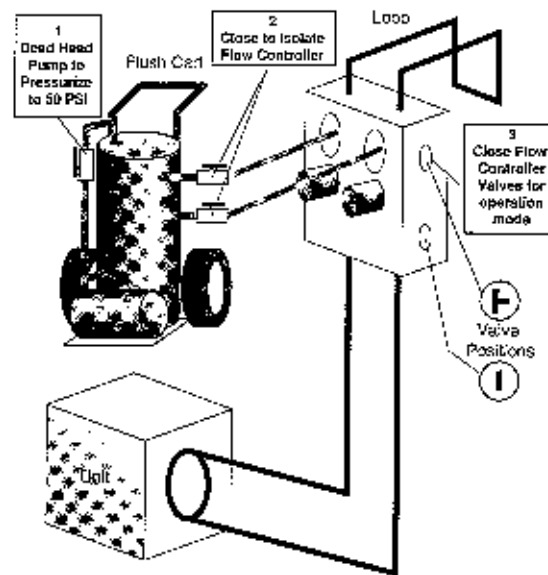

Figure 9E - Valve position E - Pressurize and Operation
7) Close the flush cart return valve; immediately thereafter, close the flush cart supply valve, shut off the flush cart leaving a positive pressure in the loop of approximately 40-50 psi for Summer and 50-75 psi for Winter. Refer to Figure 9E for more details.